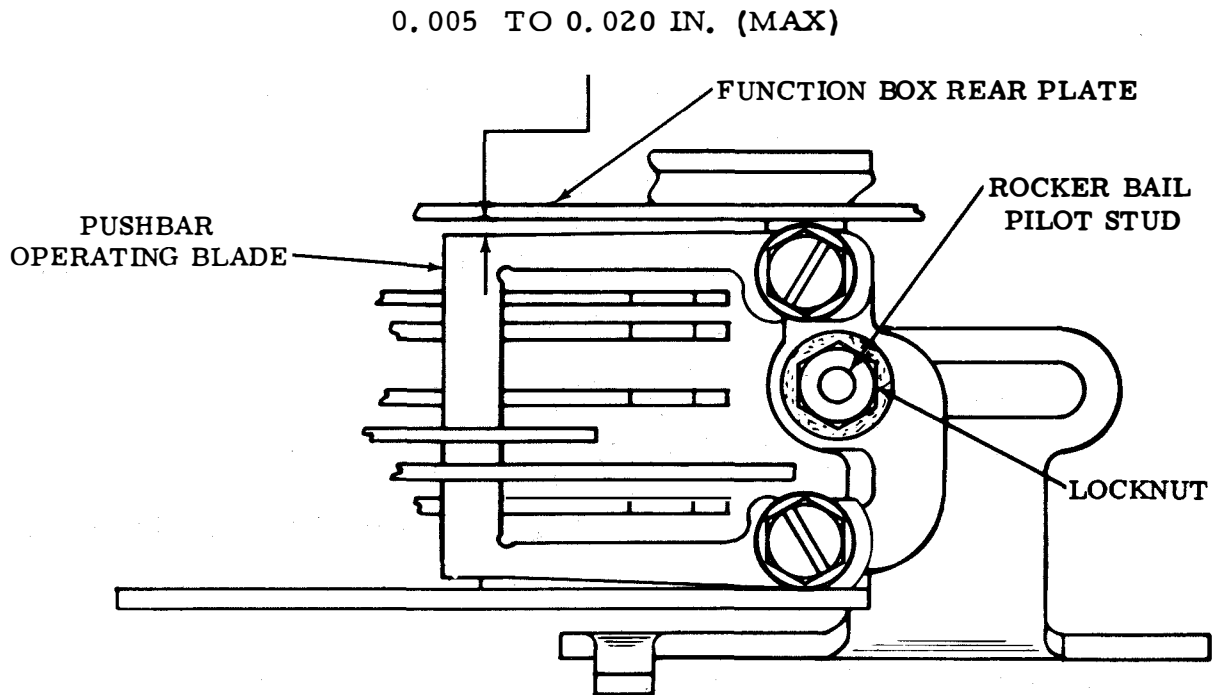

Figure 6-69. Centering Clearance - Top View
(4) Centering Clearance. Adjust as follows:
- (a) Refer to figure 6-69.